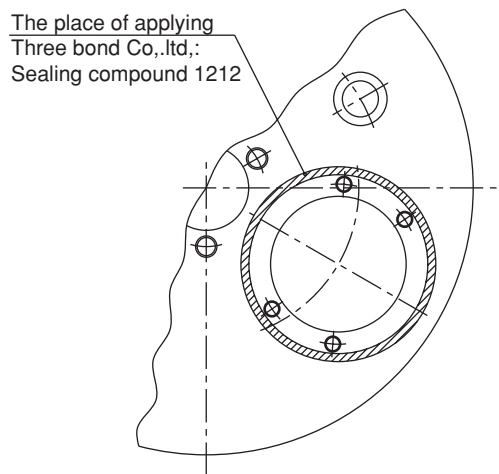

Fig. 9
8. Remove the old sealing compound, moisture, oil stain and others. Then apply the new sealing compound 1212 (Three bond co.,ltd.) to the body and the fitting surface of spherical bushing. (Refer to Fig.9)